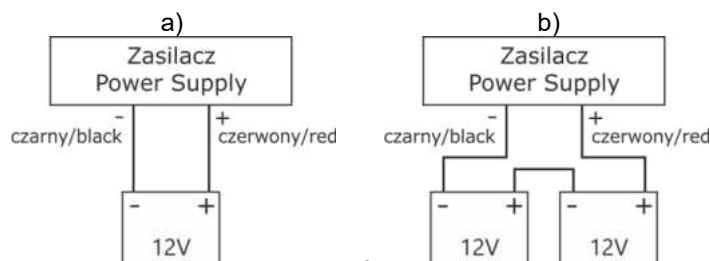

Fig. 3 Connecting batteries depending on voltage version of power supply:
6. Mount the battery in the battery compartment of the enclosure. Connect the batteries with the PSU paying special attention to the correct polarity and type of connections (Fig. 3):